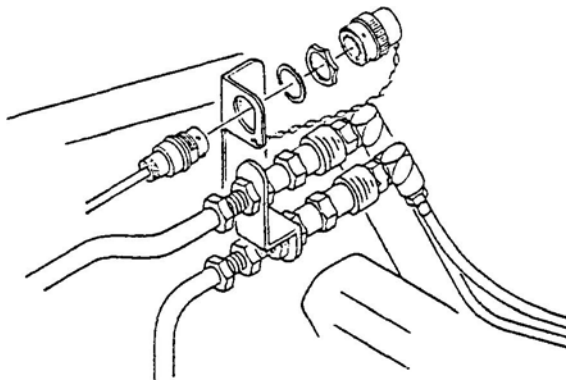

FIG. 17
- (3) Attach the receptacle to the receptacle mount using a 1 1/2" lockwasher and 1 1/2"-18 hex nut and tighten securely. See FIG. 17